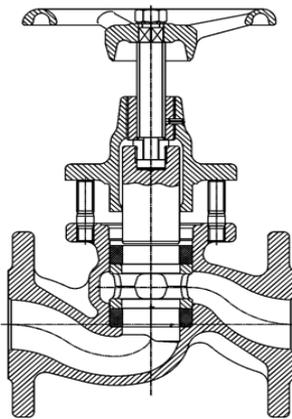

Figure 1
- » Now slightly twist the bonnet (Pos. 2) so that the bonnet flange is braced on the stud bolt faces (Pos. 12). Rotate the handwheel counterclockwise (opening direction), until the piston (Pos. 7) is fully pulled out of the upper valve ring (Pos. 9) (see Figure 1)
- » Subsequently lightly turn bonnet (Pos. 2) out of position, so that the bonnet flange can rest on the stud bolt faces (Pos. 12). Turn the handwheel counterclockwise (opening direction) until the piston (Pos. 7) is fully pulled out of the upper valve ring (Pos. 9) (see Fig. 1)